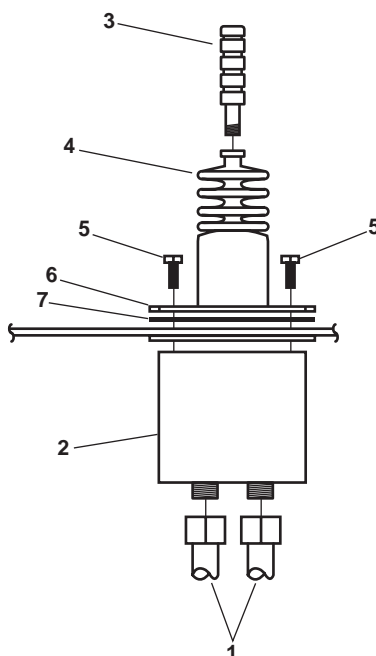

Figure 2. Proportional Valve
2. Place a suitable sized drain pan under the piping connections (figure 2, item 1) of the proportional valve (figure 2, item 2).
3. Loosen, but do not disconnect, the piping connections (figure 2, item 1) and allow any fluid to drain into the drain pan.
4. Label and disconnect the piping connections (figure 2, item 1) from the proportional valve (figure 2, item 2).
5. Unscrew the handle (figure 2, item 3) from the proportional valve (figure 2, item 2).
6. Remove the rubber boot (figure 2, item 4) from the proportional valve (figure 2, item 2).
7. Remove the two bolts (figure 2, item 5) that secure the proportional valve (figure 2, item 2), the top mounting plate (figure 2, item 6), and the rubber seal (figure 2, item 7) to the control panel top (figure 2, item 8).
8. Remove the top mounting plate (figure 2, item 6), the rubber seal (figure 2, item 7), and the proportional valve (figure 2, item 2) from the control panel. Discard the rubber seal.
1. Install the top mounting plate (figure 2, item 6), a new rubber seal (figure 2, item 7), and the proportional valve (figure 2, item 2) in the control panel and secure it in place with the two bolts (figure 2, item 5).
2. Install the rubber boot (figure 2, item 4) on the proportional valve (figure 2, item 2).
3. Screw the handle (figure 2, item 3) into the proportional valve (figure 2, item 2).
4. Install the piping connections (figure 2, item 1) on the proportional valve (figure 2, item 2) using the labels from step 3 of Removal as a guide. Remove the labels.